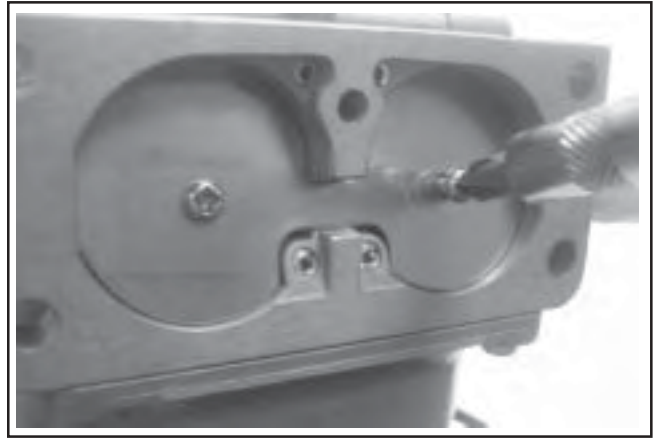

Figure 5-37. Installing Choke Plate.
11. Place a drop of Loctite® on the threads of each new screw. Position and install the new choke plate to the flat side of the choke shaft. Start the two screws. Close the choke and check the plate alignment within the carburetor throat, then tighten the screws securely. **Do not overtighten.** See Figure 5-37.